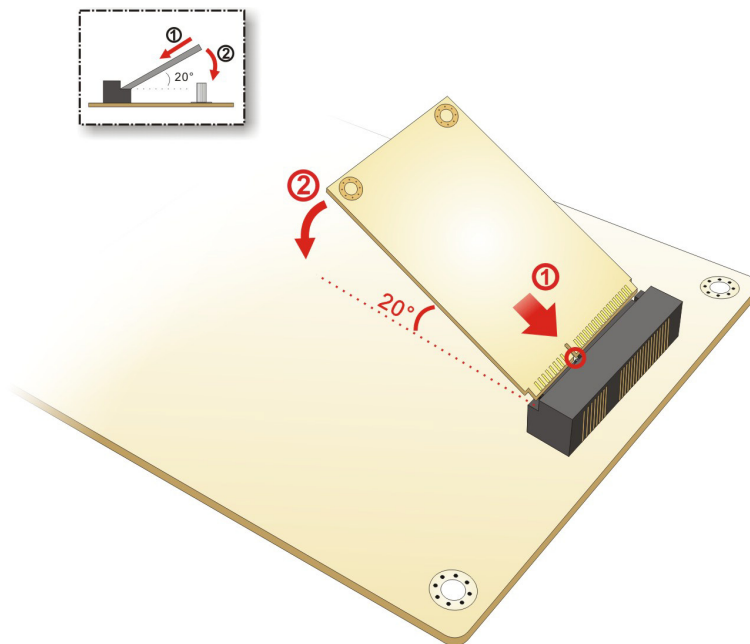

Figure 4-4: Inserting the Full-size PCIe Mini Card into the Slot at an Angle
Step 4: **Insert into the socket at an angle.** Line up the notch on the card with the notch on the slot. Slide the PCIe Mini card into the socket at an angle of about 20° (Figure 4-4).